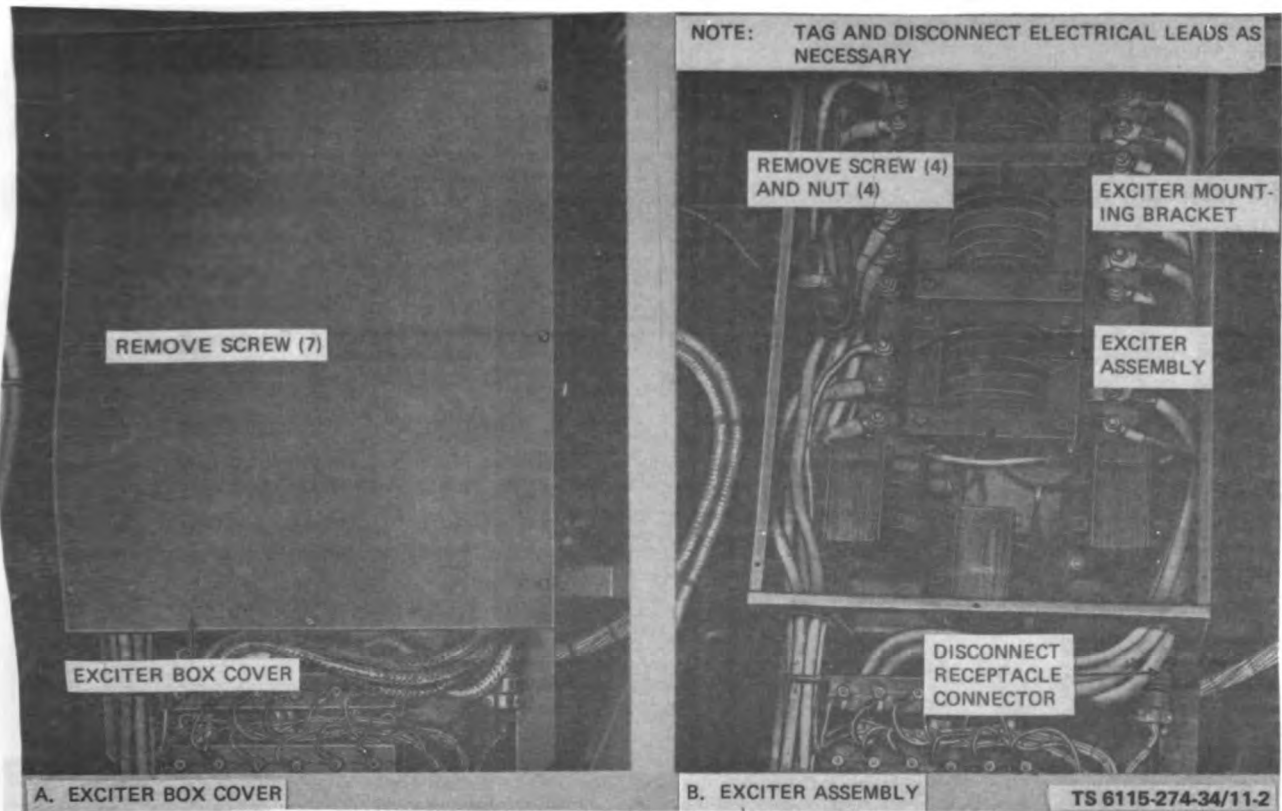

Figure 11-2. Static Exciter, Removal and Installation
(1) Remove screws and remove cover (fig. 11-2).
(2) Disconnect receptacle connector.
(3) Tag and disconnect electrical leads.
(4) Remove screws and nuts and remove exciter assembly.